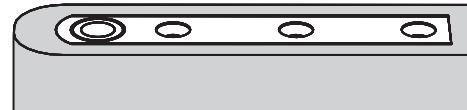

Figure 4
2. Install door portion of top pivot in door using three (3) 1/4-20 x 3/4" FHMS or #14 x 1-1/2" FHWS. (Figure 4)